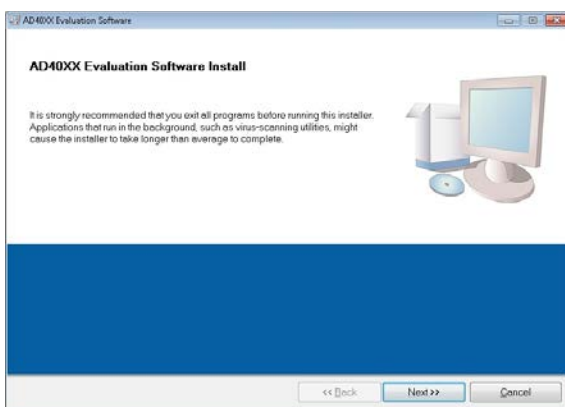

Figure 3. Evaluation Software Install
1. Launch the evaluation board software installation by clicking the **setup.exe** file. The software installation window opens as shown in Figure 3